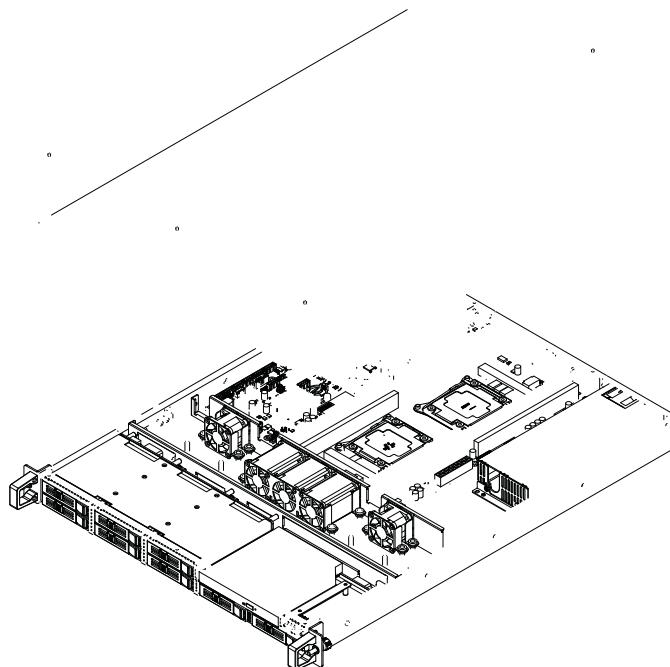

Figure 2.1 Removing the Cover/ 移除顶盖 / 移除上蓋
2. Slide the top cover backwards and then lift it up. (see Figure 2.1)
2. 将顶盖向后拉出然后向上抬起。（如图 2.1 所示）